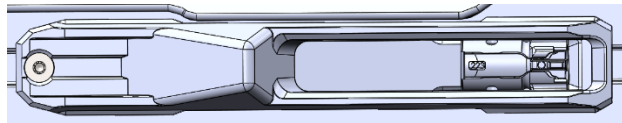

Figure 27: Bolt Head Extractor, Ejector Side
1. When swapping the ejection side, the bolt head needs to be rotated 180 degrees and reinstalled into the bolt carrier. The extractor should match the side of the rifle desired for case ejection. (Figure 27)
1. Insert the bolt head into the bolt carrier, with the extractor on the same side that ejection is desired. Right-hand ejection shown (Figure 27).